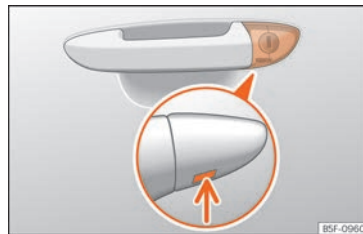

Fig. 6 Driver door lever: hidden lock cylinder.
- Insert the key shaft into the lower opening in the cover on the driver door handle »» Fig. 6 (arrow) then remove the cover upwards.